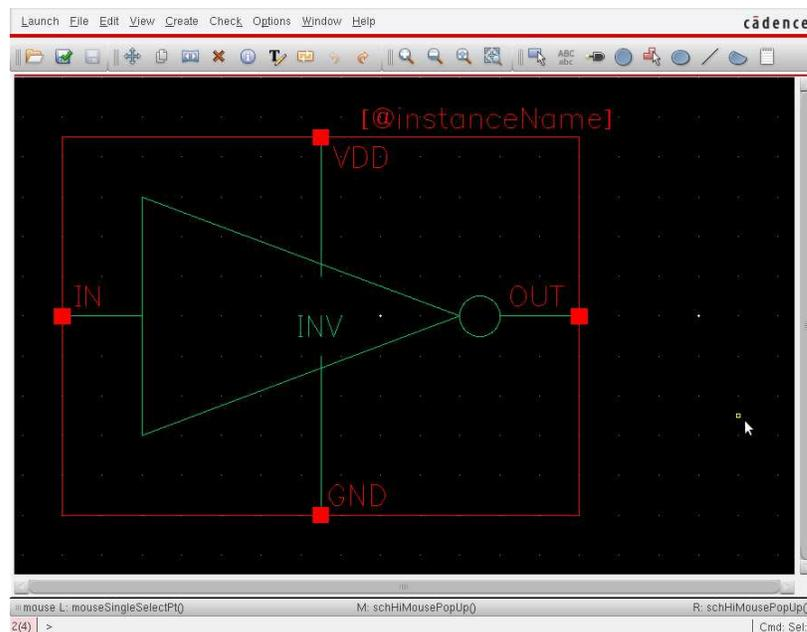

Figure 4: Symbol of the inverter.
2. A new window will open with a rectangular box and the pins as you directed. This is the default symbol created for your circuit. You can make it look like the familiar look of the symbol “Inverter”. You can use the drawing components that look like square or circle on the toolbar at top of the page. Final Figure should look like figure 4. (Do not forget to save it.)